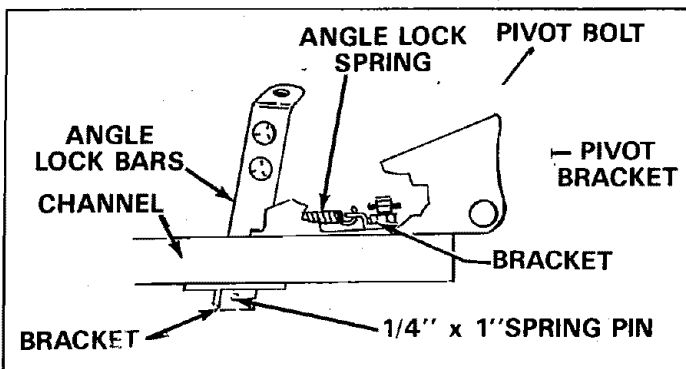

FIGURE 2
4. Using a hammer drive 1/4" x 1" spring pin through slot in bracket and hole in end of lock bars until flush with bracket. See figure 2. Tighten 3/8" hex nuts left loose in step 1.